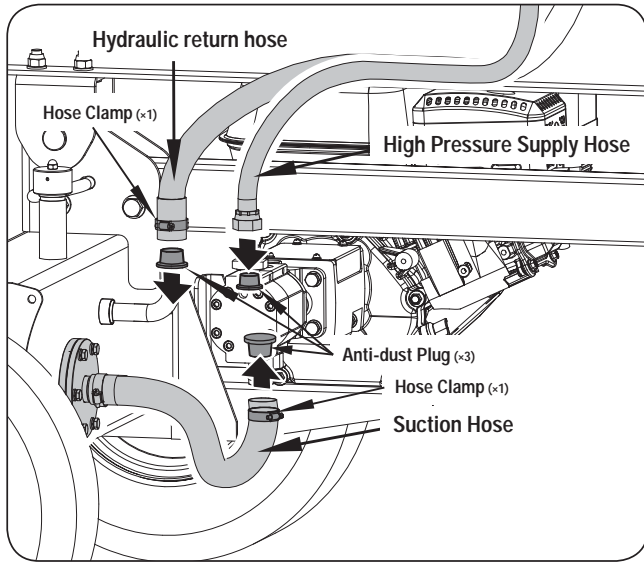

Figure 9d
- Remove the anti-dust plugs from the high pressure supply hose, suction hose and hydraulic return hose. (See *Figure 9d*.)